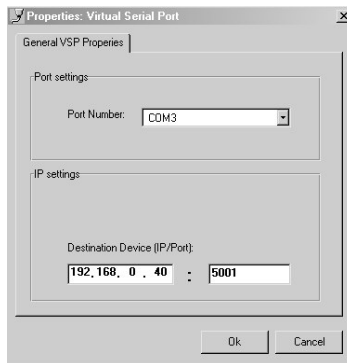

Figure 13: The Virtual Serial Port Properties Window
2. Press the **Add VSP** button to add a serial port and type the IP settings according to the IP address and local port of your **VS-44HC** (see Figure 13).